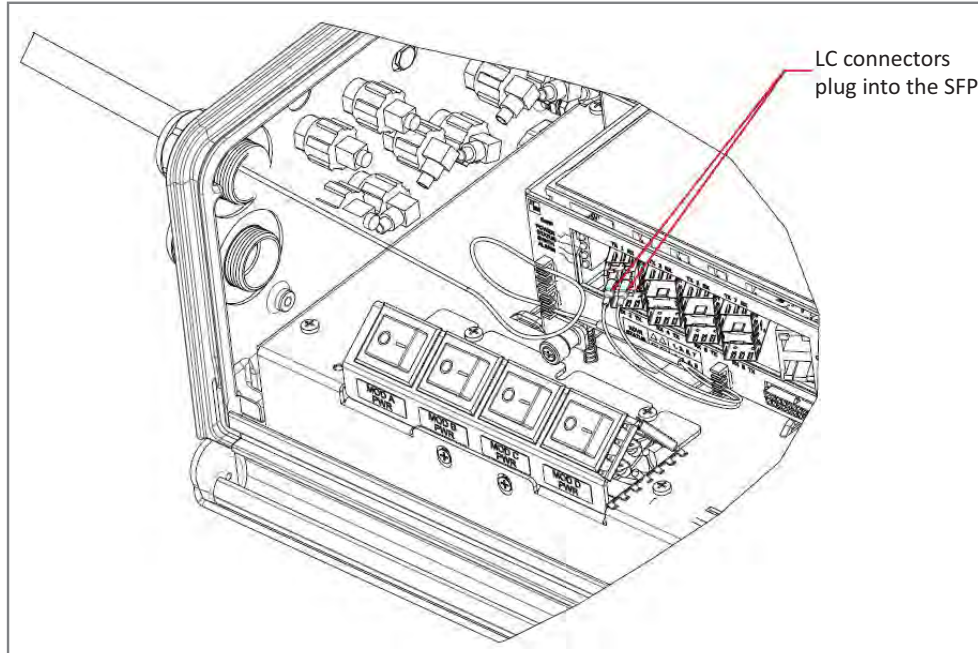

Figure 15. Connect LC Connector to SFP—Standard Configuration
- for standard configurations, see Figure 15 on page 68